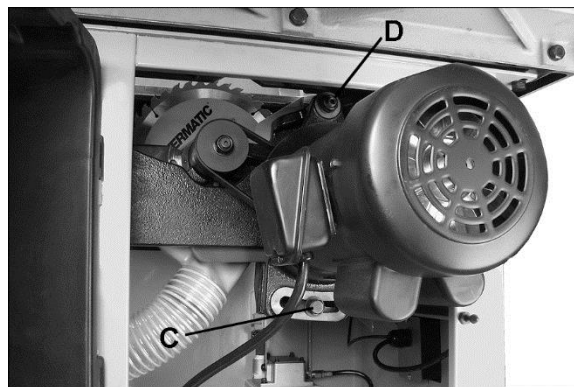

Figure 8-12
See Figure 8-12.
2. Loosen screw (C, Figure 8-12) with 17mm wrench.
3. Slightly loosen nut (D) with 1-1/4" (or adjustable) wrench.
4. Push motor to the right and tighten screw (C) to tension belt. Retighten nut (D). Verify proper tension by pushing on belt midway between pulleys; deflection should be about 1/2-inch.